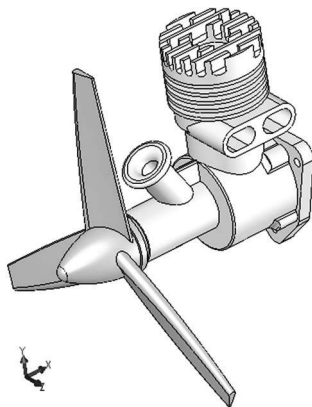

Figure 1-1 A Single Piston Engine (Unexplode View)
*SOLIDWORKS Motion* is a computer software tool that supports engineers to analyze and design mechanisms. It is a module of the *SOLIDWORKS* product family developed by *Dassault Systèmes SOLIDWORKS Corporation*. This software supports users to create virtual mechanisms that answer general questions in product design as described next. A single piston engine shown in Figures 1-1 and 1-2 will be used to illustrate some typical questions, such as the following: